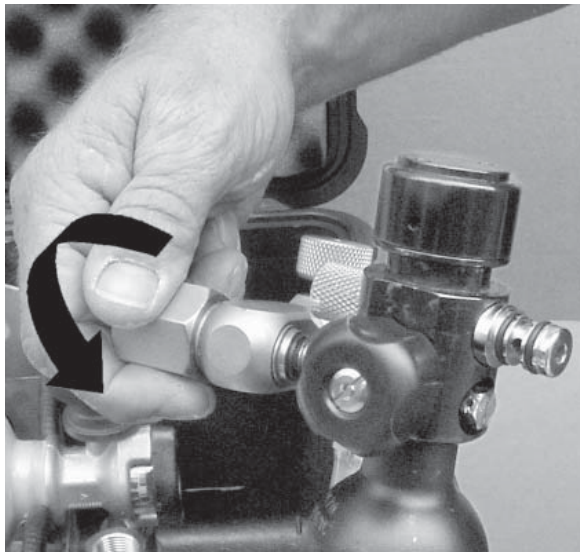

figure 4
5.5. Connect the SEA to the fill hose, by placing the fill adapter (PRS21) into the fill port and rotating the knob clockwise until the O-ring is fully seated. (figure 4)